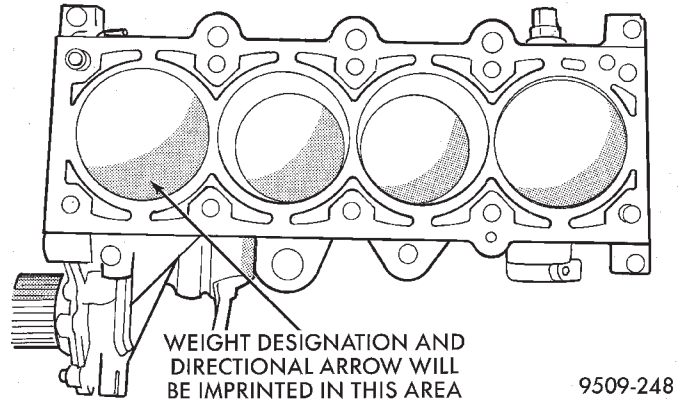

Fig. 87 Piston Markings
(1) Remove top ridge of cylinder bores with a reliable ridge reamer before removing pistons from cylinder block. **Be sure to keep tops of pistons covered during this operation.** Mark piston with matching cylinder number (Fig. 87).
(3) Pistons will have a stamping in the approximate location shown in (Fig. 87). These stamps will be either a directional arrow or a weight identification for the assembly. L is for light and H is for heavy. These assemblies should all be the same weight class. Service piston assemblies are marked with a S and can be used with either L or H production assemblies. The weight designation stamps should face toward the timing belt side of the engine.
(4) Pistons and connecting rods must be removed from top of cylinder block. Rotate crankshaft so that each connecting rod is centered in cylinder bore.
(5) Remove connecting rod cap bolts **Do not use old bolts if reinstalling connecting rod.** Push each piston and rod assembly out of cylinder bore.
(4) The weight stamp designation L or H will be in the front half of the piston should face toward the front of the engine for SOHC engine. The arrow should face toward the front of the engine for DOHC engine (Fig. 87).
(5) Rotate crankshaft so that the connecting rod journal is on the center of the cylinder bore. Insert rod and piston assembly into cylinder bore and guide rod over the crankshaft journal.
(6) Tap the piston down in cylinder bore, using a hammer handle. At the same time, guide connecting rod into position on connecting rod journal.
(7) Install rod caps. Install **New** bolts and tighten to 27 N·m (20 ft.lb.) Plus 1/4 turn.